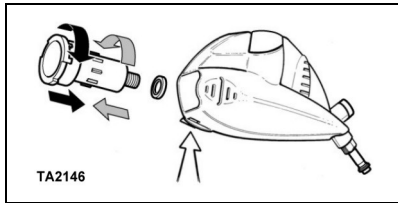

Fig. 4
1. Press the release tab (arrowed in Fig. 4) to unlock the filter.